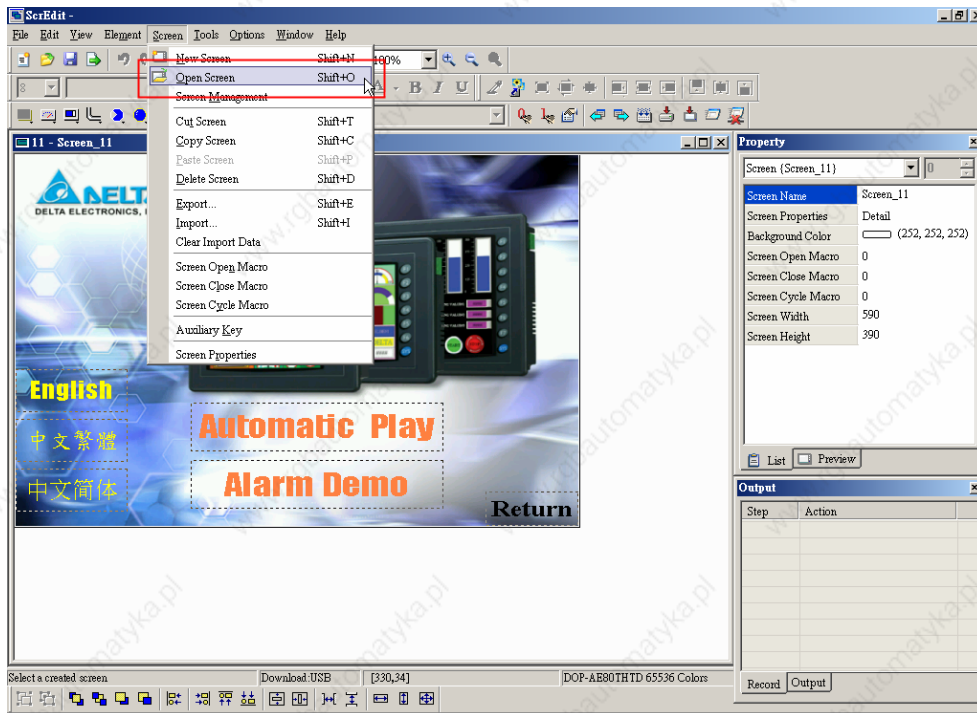
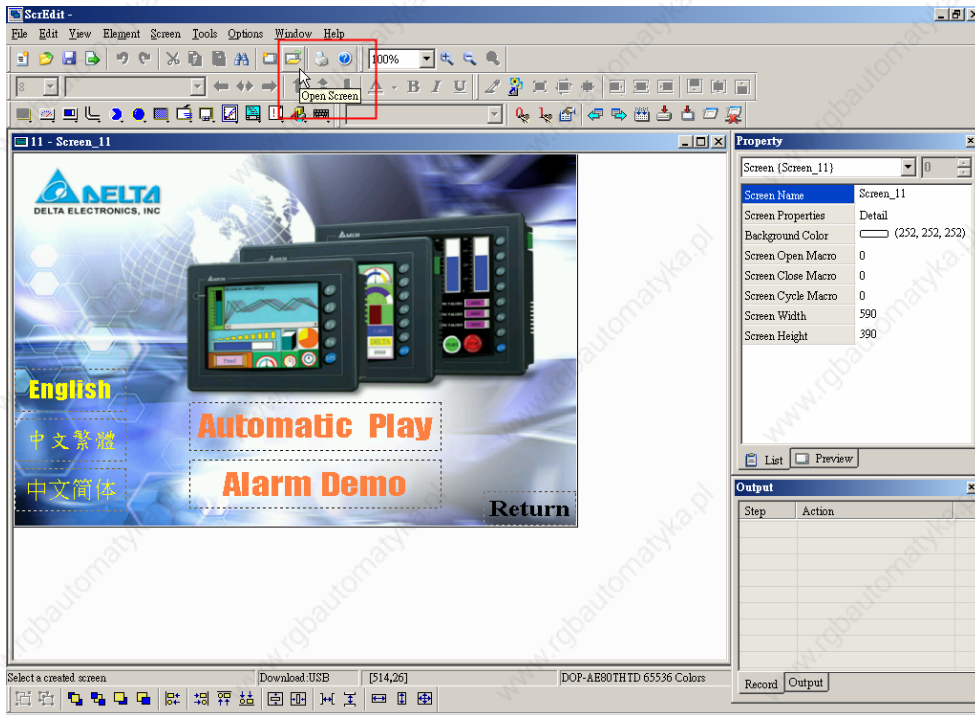
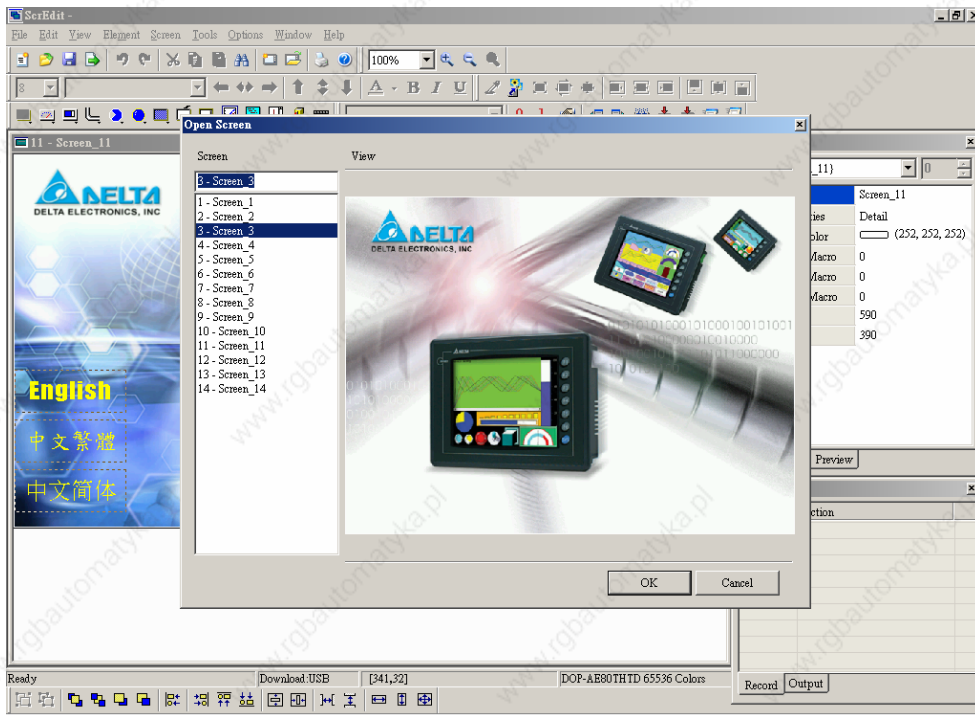

Fig. 2.7.6 Choosing Open Screen command from menu bar
Fig. 2.7.7 Choosing Open Screen icon from toolbar
Fig. 2.7.8 Open Screen dialog box
**Screen** (Fig. 2.7.6) or click the Open Screen icon  (Fig. 2.7.7), or use keyboard shortcuts by pressing **Shift + O**. When choosing open screen, the users can preview each screen in Open Screen dialog box (Fig. 2.7.8).